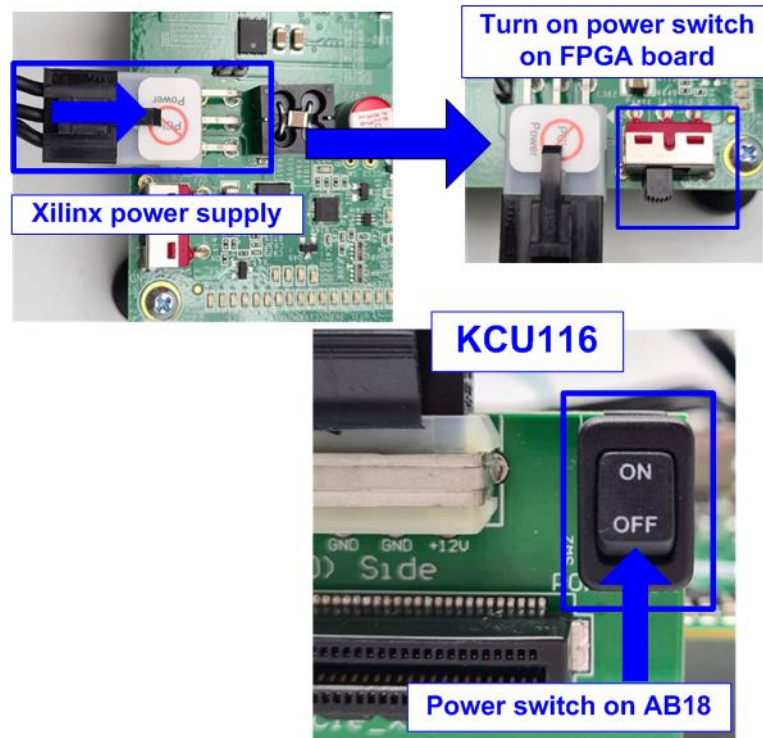

Figure 2-4 Turn on power switch on FPGA and adapter board
- 5) Power on FPGA development board and adapter board, as shown in Figure 2-4.